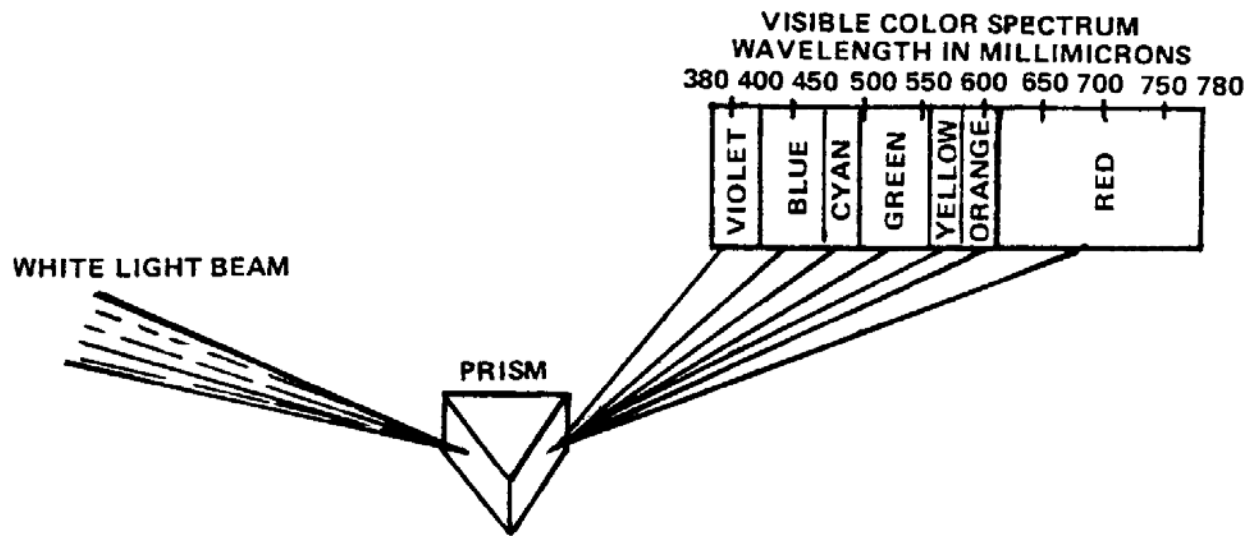

Figure S-9. Results when White Light Passes Through a Prism
c. When the entire light spectrum from 400 to 700 nanometers is presented to the eye in nearly equal proportions, white light is seen. This white light is made up of various wavelengths that represent different colors. Passing light through a prism, as shown in Figure S-9 can show this composition.